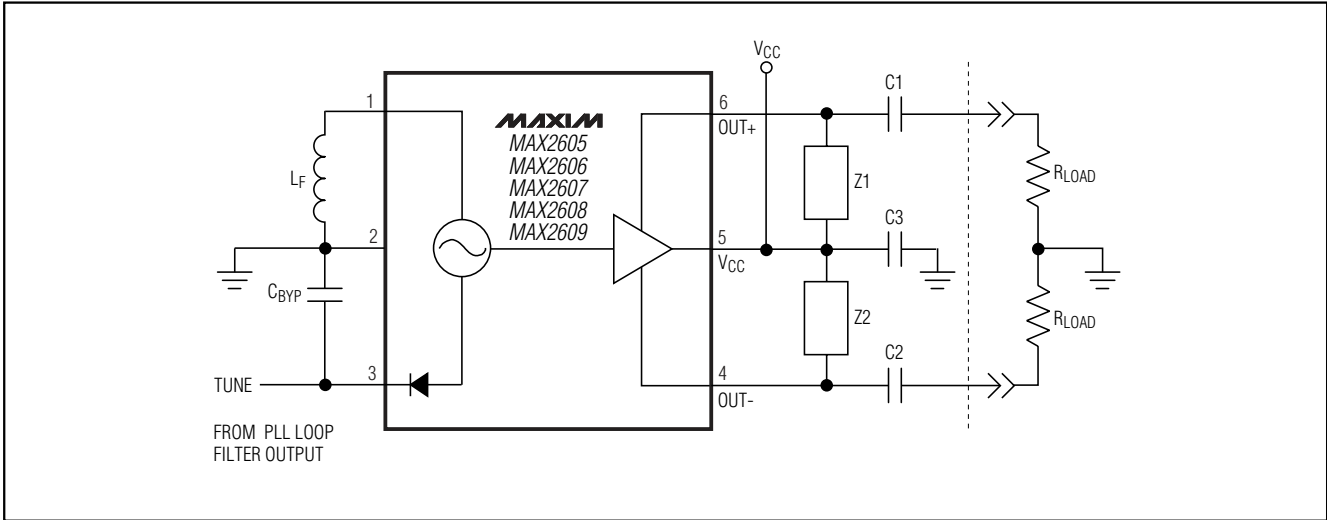

Figure 6. Typical Operating Circuit
**Note 4:** Application range of the part is achieved using external inductance as specified in Figures 1-5 and shown in Figure 6. The internal varactors support center frequencies of 45MHz to 650MHz. The center frequency is defined by the value of the external inductor element,  $L_F$ . The application frequency limits are guaranteed by design and characterization.
**Note 8:** The phase-noise specifications listed apply to the typical operating circuit shown in Figure 6. Apply over the entire operating frequency range of the MAX2605-MAX2609.
In Figure 6, Z1 and Z2 are 1kΩ pull-up resistors that are connected from OUT+ and OUT- to VCC, respectively. These resistors provide DC bias for the output amplifier and are the maximum value permitted with compliance to the output voltage swing limits. In addition, the 1kΩ resistors maximize the swing at the load. DC-blocking capacitors are connected from OUT- and OUT+ to the load. If the load driven is primarily resistive and the VCO operating frequency is below the -3dB bandwidth of the output network, then the peak-to-peak differential signal amplitude is approximately:
To optimize the output voltage swing or the output power, use a reactive power match. The matching network is a simple shunt-inductor series-capacitor circuit, as shown in Figure 6. The inductors are connected